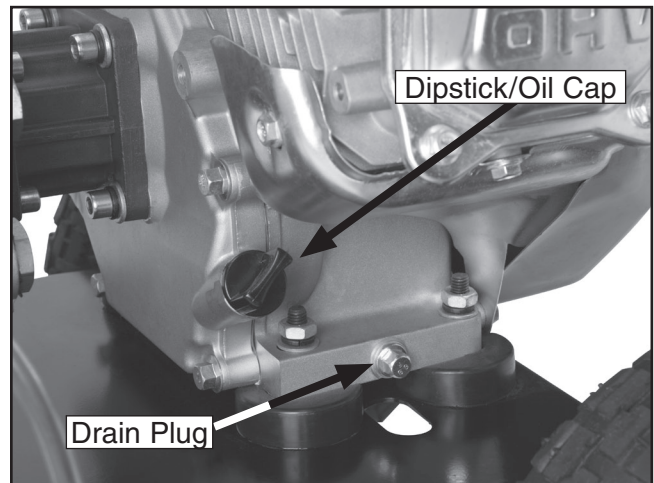

Figure 17. Motor maintenance points.
3. Remove the drain plug on the side of the engine (**Figure 17**) and allow oil to drain through the hole in the frame into a catch basin.